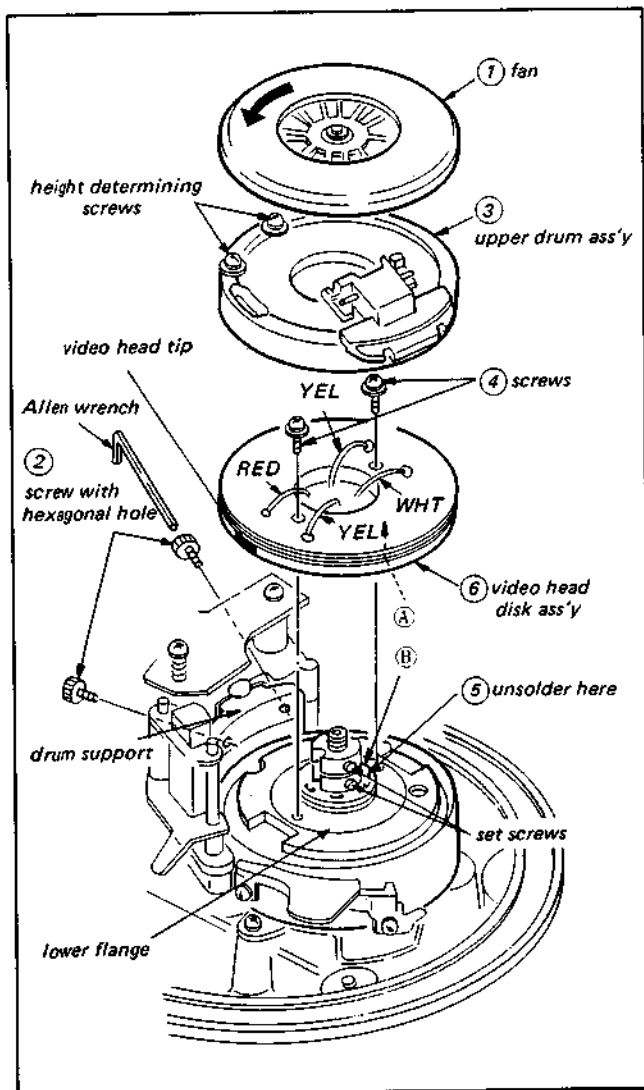

Fig. 3-1. Replacement of the video head disk assembly
1. Remove the video head disk assembly, following Steps ① to ⑥ shown in Fig. 3-1.
- For removing fan ①, hold video head disk assembly ⑥ (without touching heads) and turn the fan in a counterclockwise direction.
- Prior to installing the video head disk assembly ⑥, clean surfaces A and B with a piece of cloth saturated with methanol or isopropyl alcohol.
- (ii) Turn the shaft of the drum counterclockwise slowly with the fingers and adjust the video head disk position so that the variation in the reading of the drum eccentricity adjusting gauge is within $5\ \mu\text{m}$ during each turn of the drum, by very gently tapping a screwdriver whose blade-tip is against the inner circumference of video head disk assembly (5).
- (iii) Tighten the screws (6) that secure the video head disk assembly (5) alternately and gradually after the eccentricity adjustment is completed. (tightening torque: more than $10\ \text{kg}\cdot\text{cm}$.)
- (v) Solder the four leads of the head and remount the upper drum assembly while holding the upper drum height determining screws. (See Fig. 3-1.)